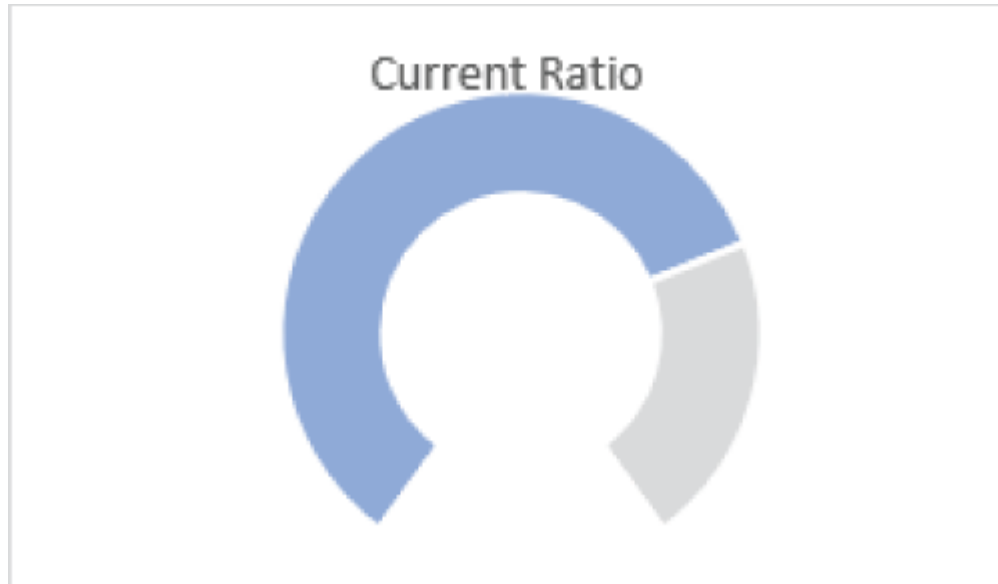

Figure 2.55: Set the fill colors for each data point.
- Figure 2.55 shows the chart after these changes.